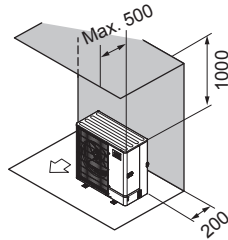

Fig. 1-23
- ② Obstacles at rear and above only (Fig. 1-23)